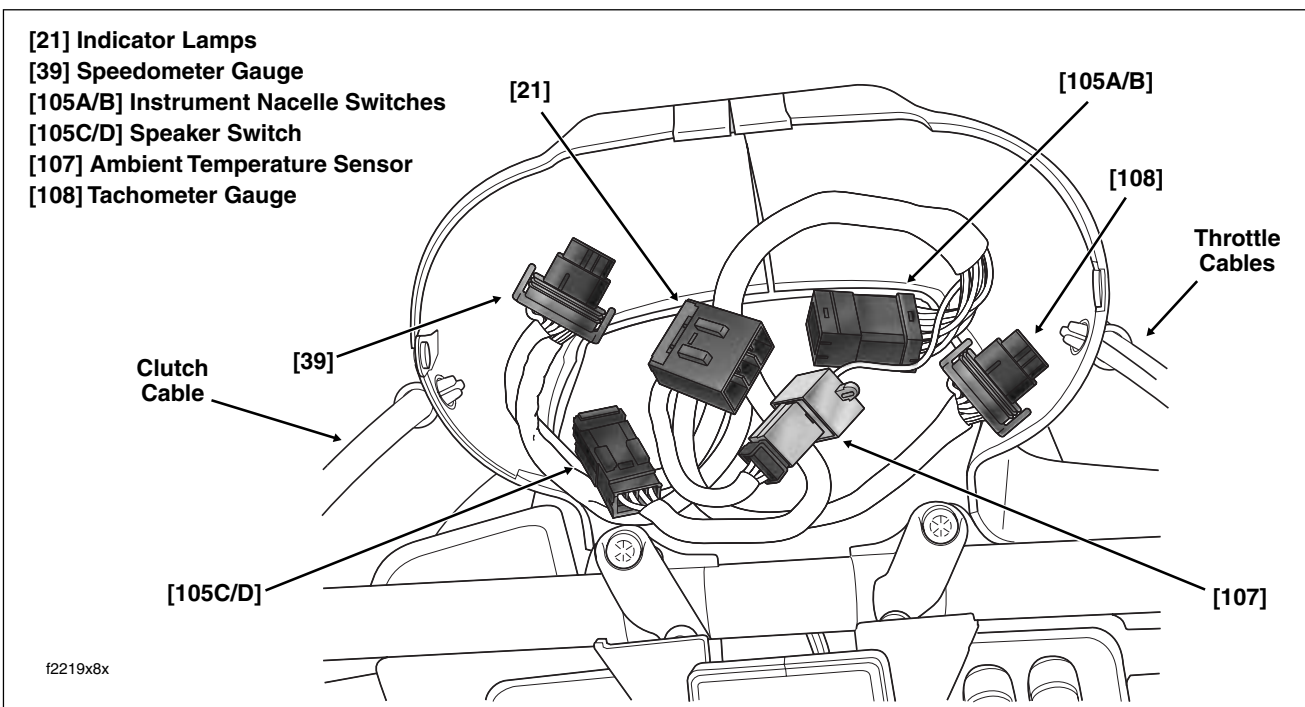

Figure 8-83. Instrument Nacelle (Bezel Removed)
5. See Figure 8-83. Disconnect instruments and indicator lamps from interconnect harness as follows:
- a. See Figure 8-83. Disconnect left side switch from instrument nacelle switch harness as follows:
- b. See Figure 8-83. Disconnect instrument nacelle switches from interconnect harness as follows:
- See Figure 8-83. Connect left side switch to instrument nacelle switch harness as follows:
- f. See Figure 8-83. Connect left side switch to instrument nacelle switch harness as follows:
- g. See Figure 8-83. Connect instrument nacelle switches to interconnect harness as follows:
2. See Figure 8-83. Looking into the instrument nacelle, connect instruments and indicator lamps to interconnect harness as follows: